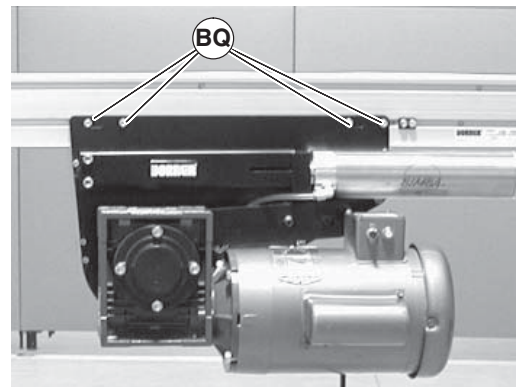

Figure 43
2. If necessary, adjust the tracking cam: loosen the center drive fastening screws (Figure 43, item BQ) on the side of center drive to be tracked.
4. Tighten the center drive fastening screws (Figure 43, item BQ) to 146 in-lbs (16.5 N-m).